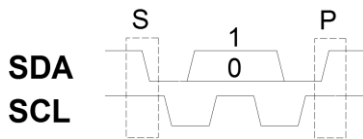

Figure 4. I2C bus protocol definitions
Figure 4 on next page shows the start (S) and stop (P) bits and a data bit. Data must be held stable at
Each serial bus operation, like write, starts with the start (S) bit (see figure 4). After start (S) the MAS6503 device address with write bit (AW, see table 9) is sent followed by an Acknowledge (A). After this the Measurement control register 1 address (see table 1) is sent and followed by an Acknowledge (A). Next the Measurement control register 1 data (DC1, see table 3) is written and
followed by an Acknowledge (A). Due to register address auto increment to the next register address the Measurement control register 2 data (DC2, see table 4) can follow right after first data byte. After acknowledge of second data byte the serial bus operation is ended with stop (P) command (see figure 4). A new A/D conversion starts right after Measurement control register 2 bits are received.